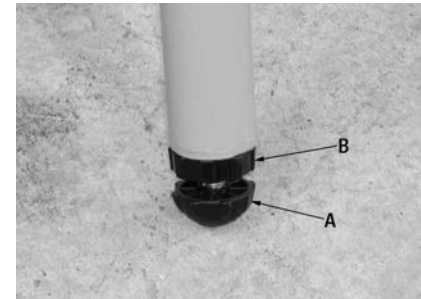

FIGURE 5
This stand comes with a leveling foot (A) Fig.5. This leveling foot is convenient and allows adjustment when the stand is placed on an uneven surface.
- 1) Loosen the leveling foot (A) and the nut (B).
- 2) Turn the leveling foot until the stand is firmly positioned. Once properly adjusted, hold the leveling foot and tighten the nut (B) against the bottom of the leg.